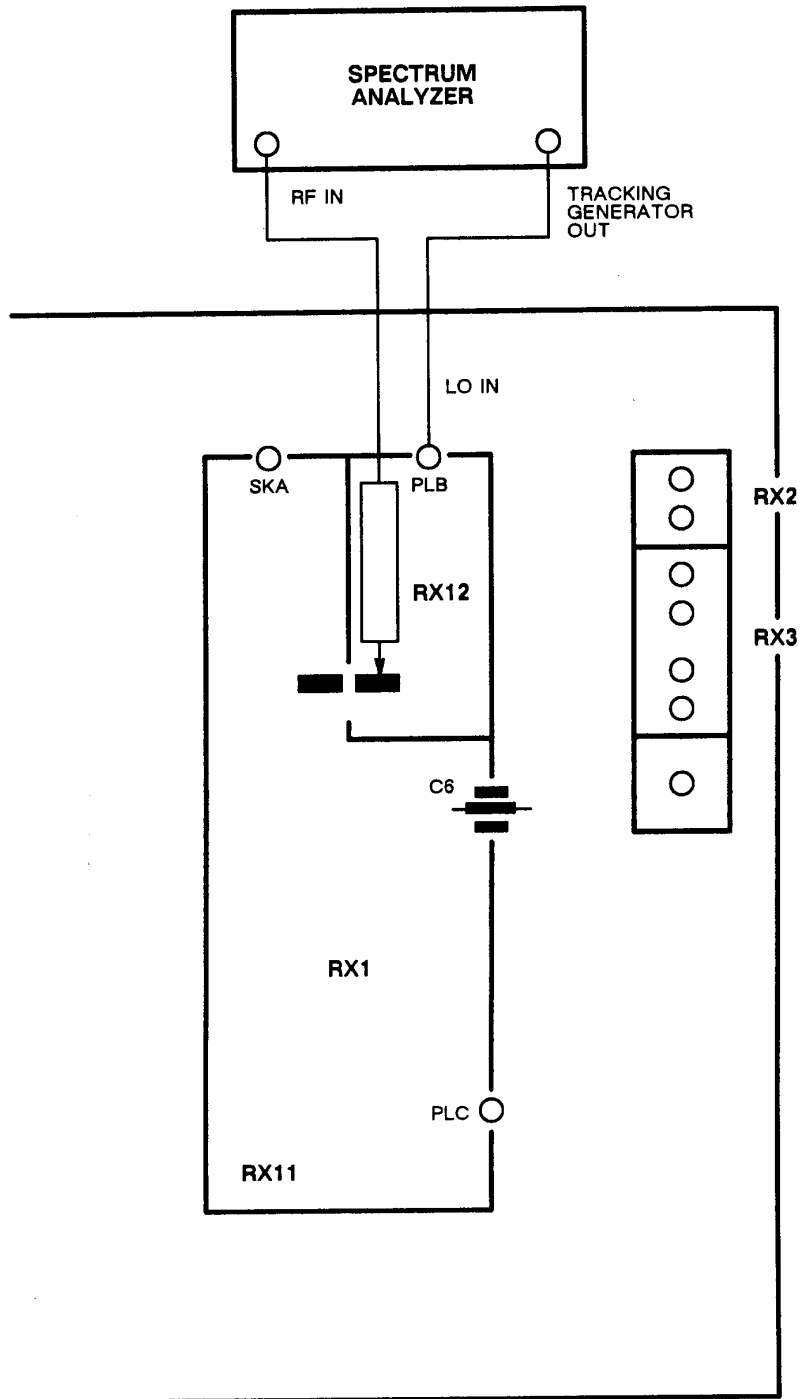
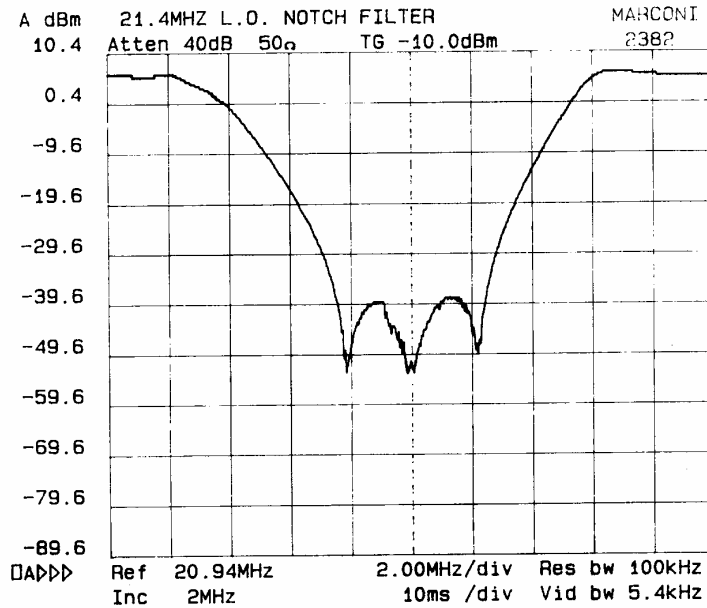

Fig. 5-2-15 Connections for adjustment of 21.4 MHz LO notch filter
Fig. 5-2-16 Response of 21.4 MHz LO notch filter
- (1) Remove the interconnecting link between RX12 and RX11.
- (2) Connect the tracking generator output to the LO input of RX12 at the SMC plug PLB. Using the active probe, connect the spectrum analyzer RF input to the signal output of RX12 at the interconnecting link position. See Fig. 5-2-15. Earth the probe on the wall of the tray or on the adjacent pad.
- (3) On the 2955R, set the MODE to TRANSMITTER MONITOR. Check that the TX FREQUENCY is 300 MHz (to ensure that the notch filter is in circuit).
- (4) On the spectrum analyzer, set the centre frequency to 21.4 MHz, span to 2 MHz/division, reference level to 0 dBm, span to 10 dB/division, resolution bandwidth to 100 kHz and tracking generator on.
- (5) Use L1, L2, L3 and L4 as necessary to tune the notch filter as shown in Fig. 5-2-16. L1 and L4 (pink) affect the notch depth, L2 (green) affects the LF slope and L3 (yellow) affects the HF slope.
- (6) When the filter has been set, replace the interconnecting link between RX12 and RX11.